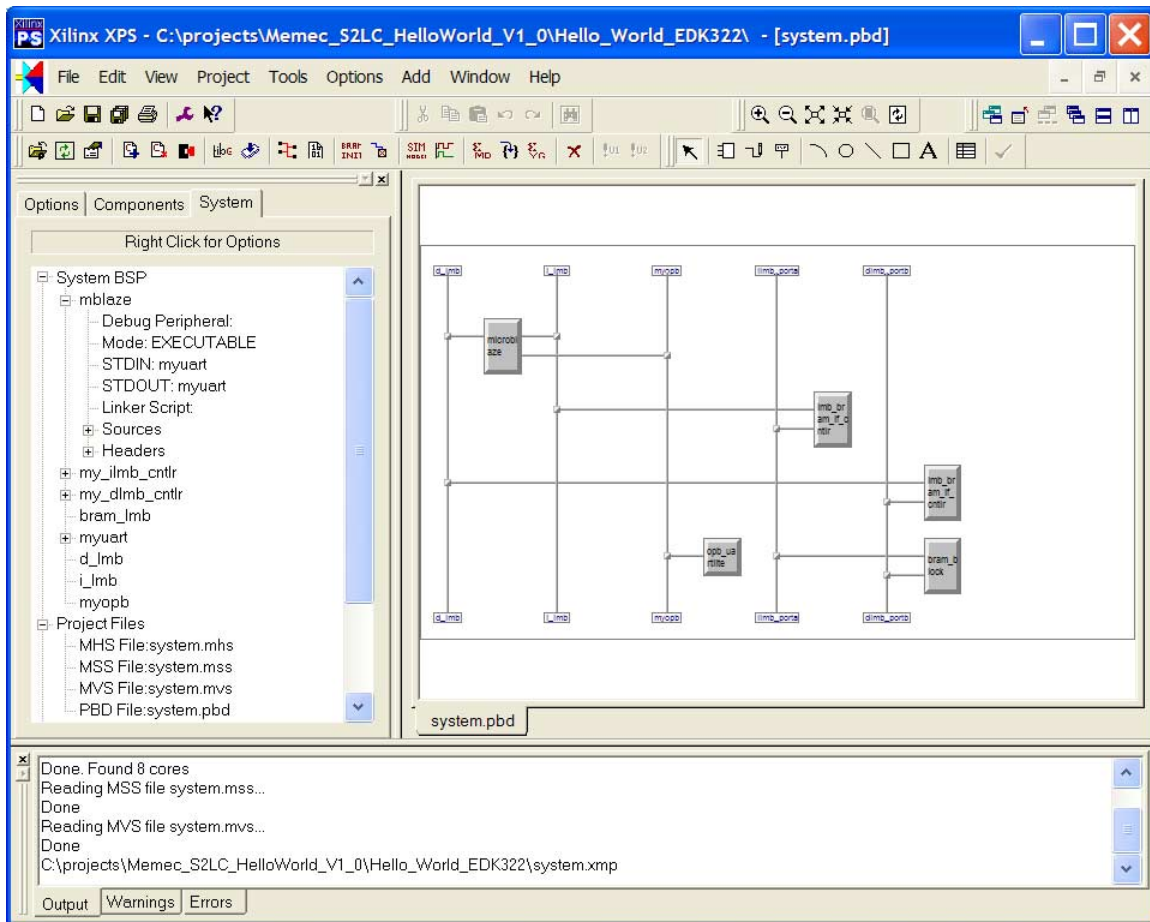

Figure 4 – XPS Hello World Project Opened
2. Browse to Memec_S2LC_HelloWorld_V1_0\Hello_World_EDK322. Select system.xmp, and select **Open**. XPS should look similar to Figure 4.